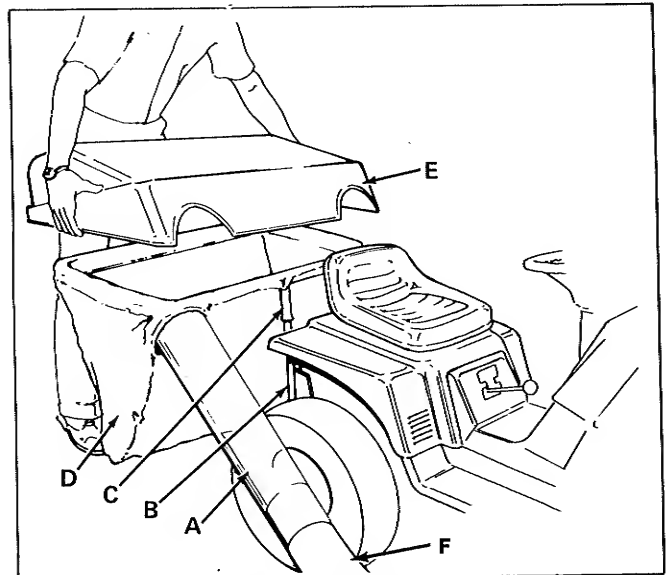

Figure 13. Install Bag and Cover
1. Install grass discharge tube (A, figure 13) with its screws on the bottom (facing down), over discharge tube of grass catcher adaptor (F). The tube should be installed so that the edge of tube (at seam) points away from operator.